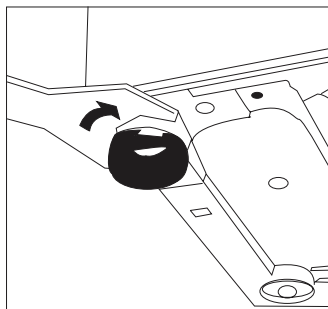

Fig. 3
- Leveling the washing machine: There are adjustable feet under the bottom of the washing machine. Before use, the washing machine should be adjusted, as shown in figure 3, so that it is level.